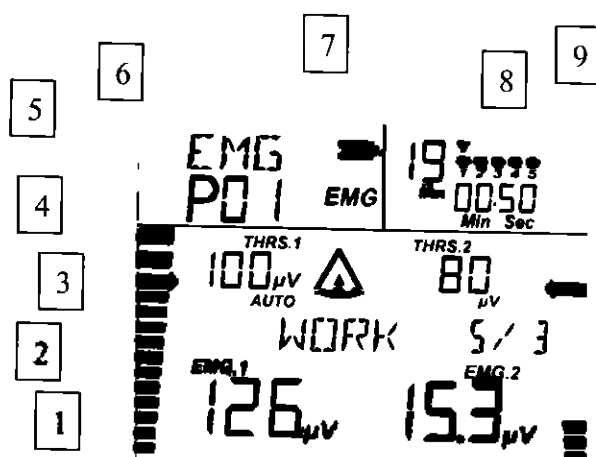

Fig. 4 – Screen: EMG phase
2. If the first or next phase is the EMG phase, then the EMG symbol will be displayed on the screen (see Fig. 4).
Designations (Fig. 4):